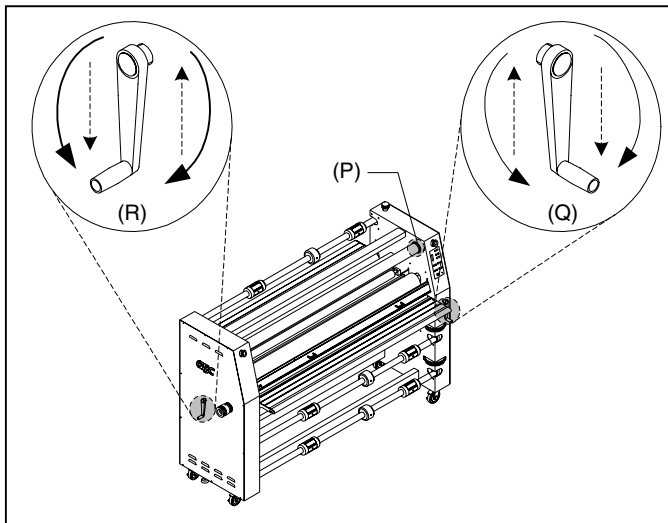

Fig. 15
P. REWIND BRAKE: (Figure 15) Located on the right side from the front operating position.
Q. MAIN ROLLER CRANK HANDLE: (Figure 15) Used to raise or lower the upper main roller. Turning the handle clockwise will lower the roller. Counterclockwise will raise the roller.
R. PULL ROLLER CRANK HANDLE: (Figure 15) Used to raise or lower the upper pull roller. Turning the handle clockwise will raise the roller. Counterclockwise will lower the roller.